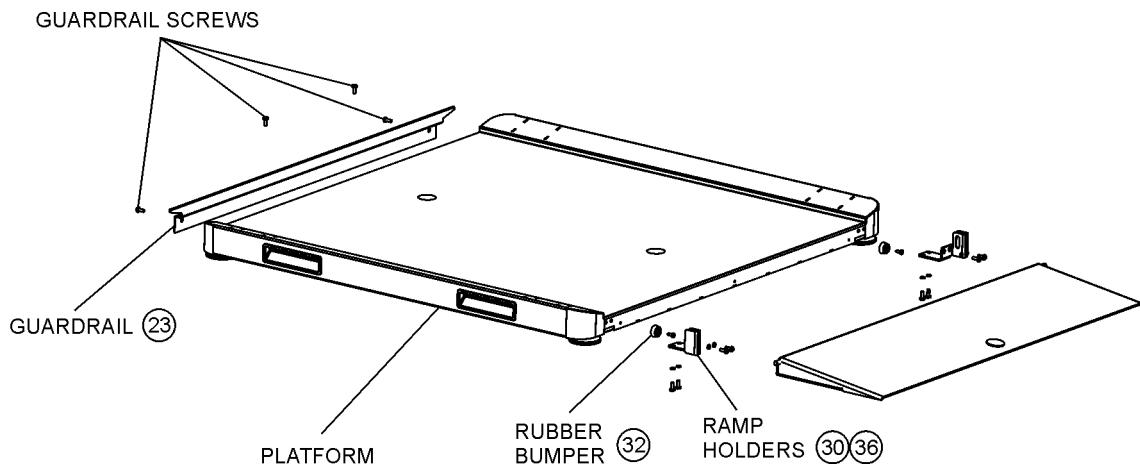

Figure 3. Ramp Moving
1. Remove the guardrail at the end of the platform by unscrewing 4 screws. (see Figure 3)